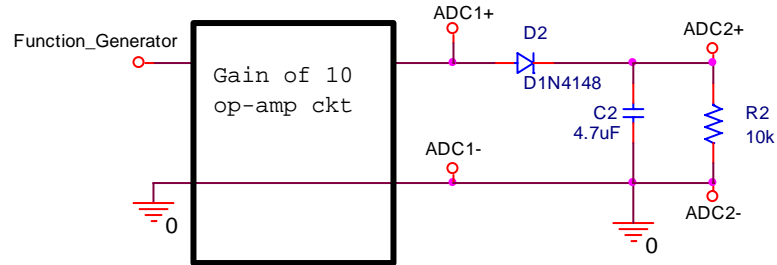

Figure B-8
- Repeat the procedure above with a 47 $\mu$ F capacitor in parallel with the resistor R, as shown in figure B-8.